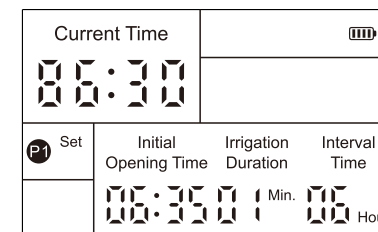

Figure 4
- 2) Press "Down" or "Up" to set the minute value, press "Set Confirm" to save minute value, and then enter the "Irrigation duration" interface. As shown in Figure 4, the irrigation duration flashes.
- 2) Press "Set Confirm" to save the settings, then enter the "Interval time" interface. As shown in Figure 4, the irrigation duration flashes.